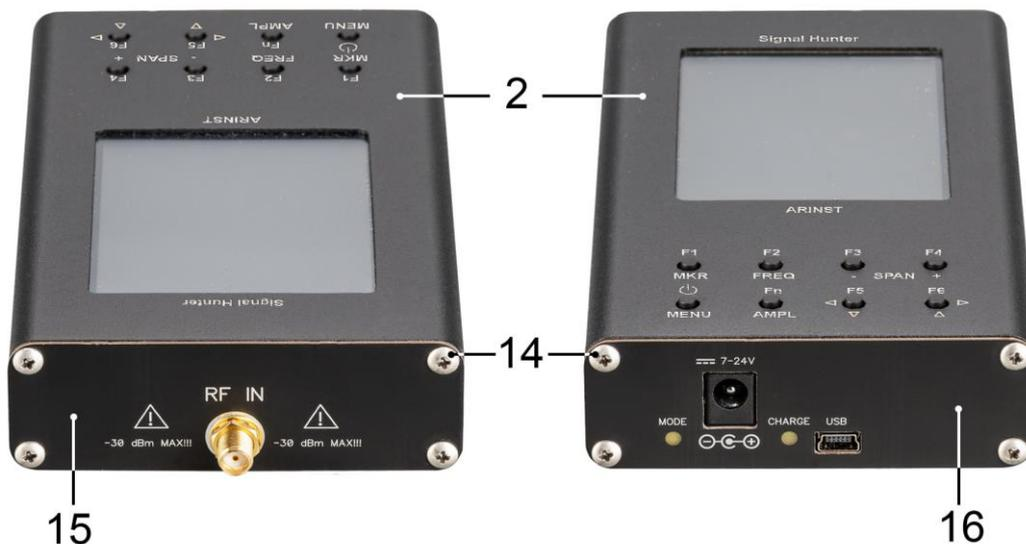

Figure 9.4.2 - Disassembly of the device case
9.4.4. Remove the 4 screws (14) on the front cover (15) of the appliance. Then remove the top 2 screws (14) of the back cover (16) of the appliance. (Figure 9.4.2).